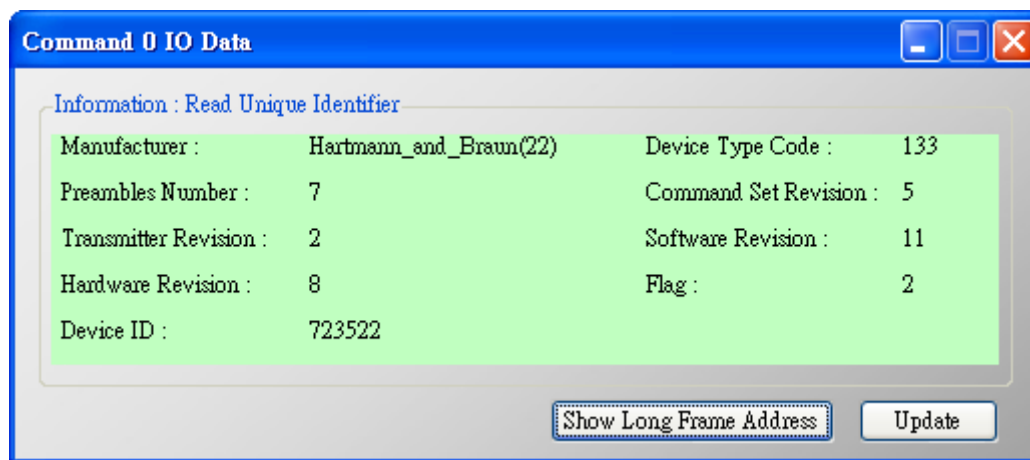

Figure 2-3 The I/O Data screen of the “Default CMD(0)” => OK
(3) The I/O Data of the “Default CMD(0)” is OK like Figure 2-3.